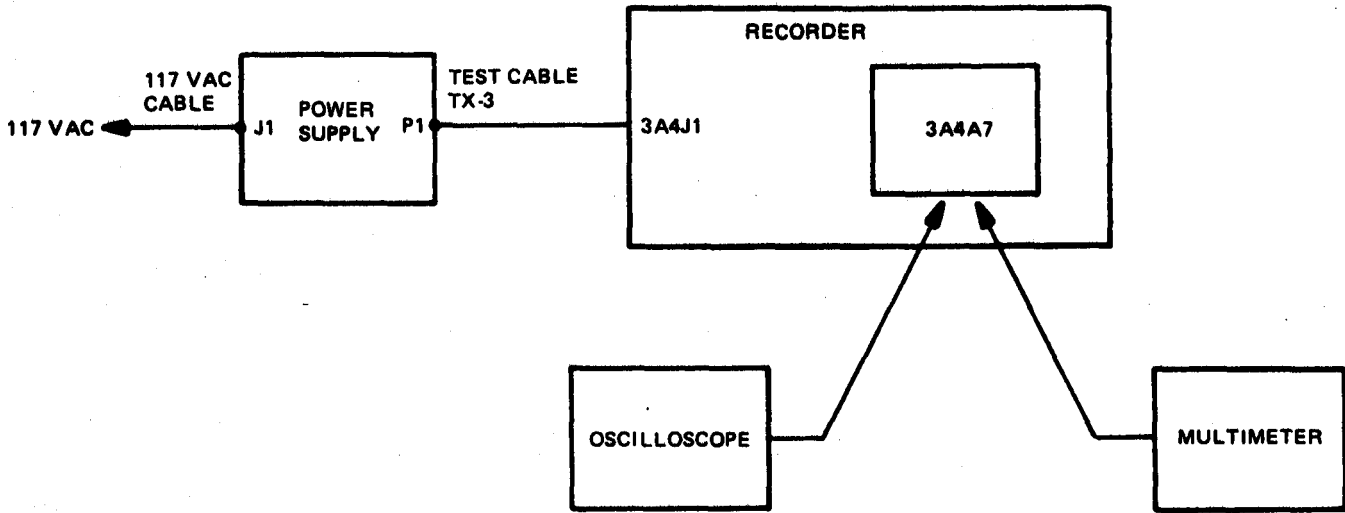

Figure 3-18. Sensor Circuit, Equipment Setup
- (1) Remove recorder housing, refer to paragraph 3-25.
- (2) Connect equipment as shown in figure 3-18.
- (3) Insert blank cassette into recorder.